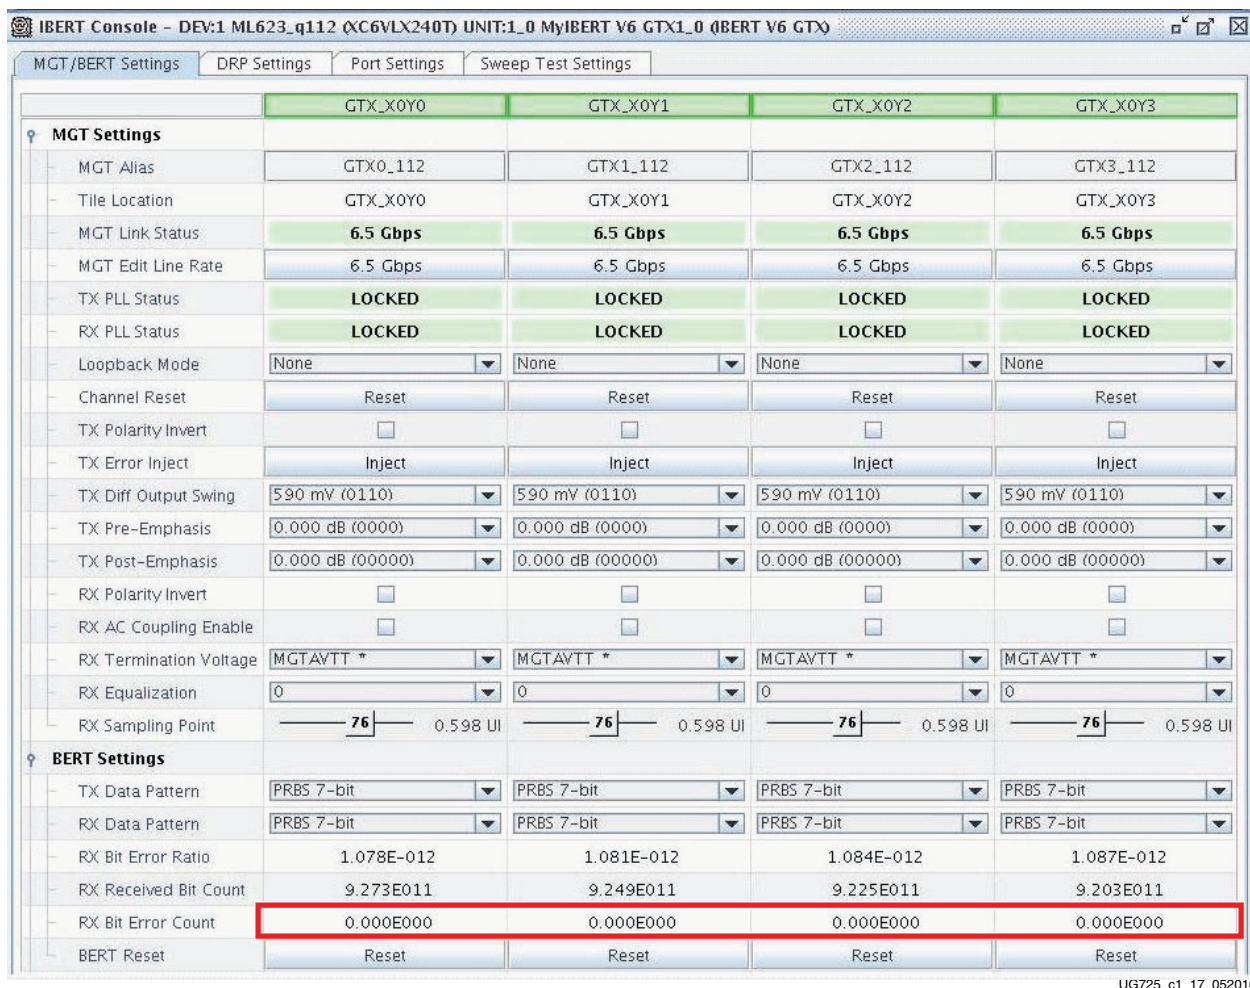

Figure 1-17: RX Bit Error Count
- Note that there are no bit errors as indicated by the RX Bit Error Count as shown in Figure 1-17.